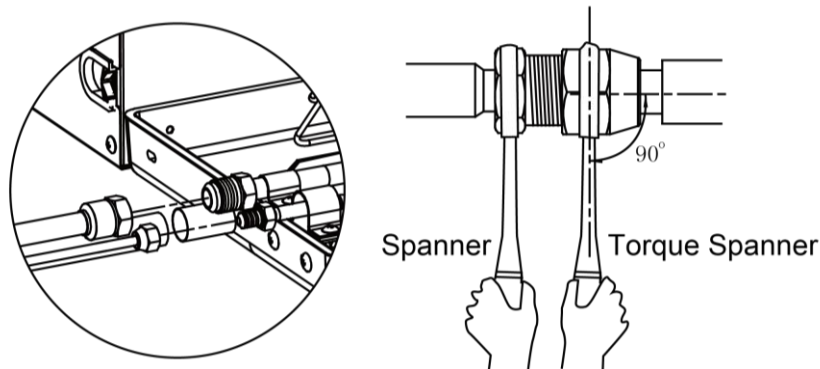

Fig.4.4.1
- (1) Before welding pipes and sealing caps, please release the residual pressure in the pipes. Direct welding may lead to property loss or personal injury.
- (2) Conform to the following principles during piping connection: Connection pipeline should be as short as possible. The height difference between indoor and outdoor units should be as short as possible. Keep number of bends as little as possible. The radius of curvature should be as large as possible.
- (3) Weld the connection pipes between indoor and outdoor unit. Please strictly conform to the requirements for welding process. Rosin joints and pin holes are not allowable.
- (4) When laying the pipes, be careful not to deform them. The radius of bending parts should be more than 200mm(7-7/8in.). The pipes cannot be repeatedly bent or stretched, otherwise the material will get harden. Do not bend or stretch the pipe over three times at the same position.
- (5) Please use a torque wrench to connect union nut on the indoor unit. See Fig. 4.4.1.